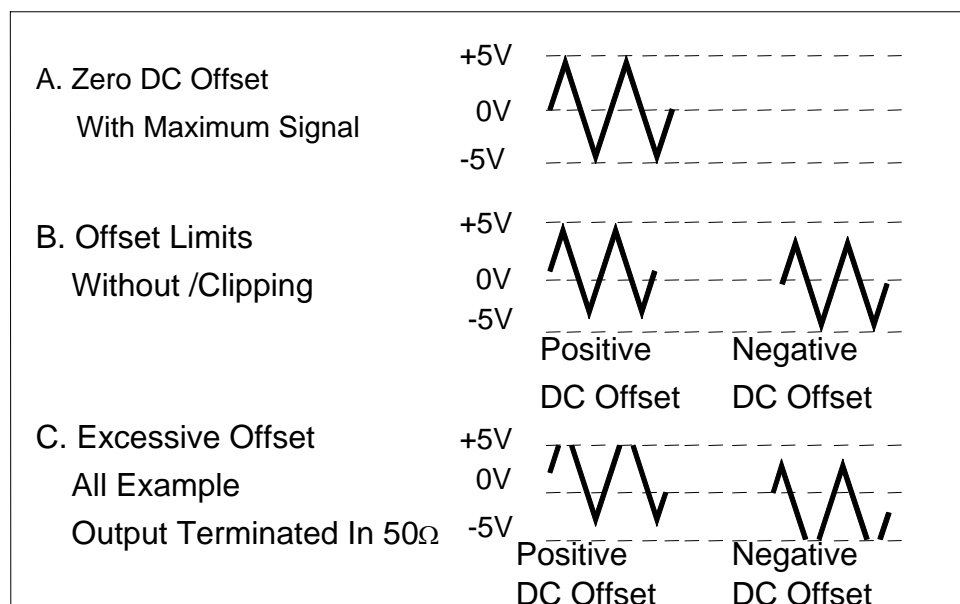

FIG 4. USE OF DC OFFSET CONTROL
- A. The DC offset control can provide over ± 10 volts open-circuited, or ± 5 volts into 50 Ω load. Remember that the combined signal swing plus DC offset is also limited to ± 10 V open-circuited, or ± 5 V into 50 Ω . Clipping occurs slightly next page these levels. FIG 4. illustrates the various operating conditions encountered when using DC offset. If the desired output signal is large or if a large DC offset is used, an oscilloscope should be used to make sure that the desired combination is obtained without clipping. Keeping the Amplitude control in the lower half of its adjustment range reduces the probability of clipping.